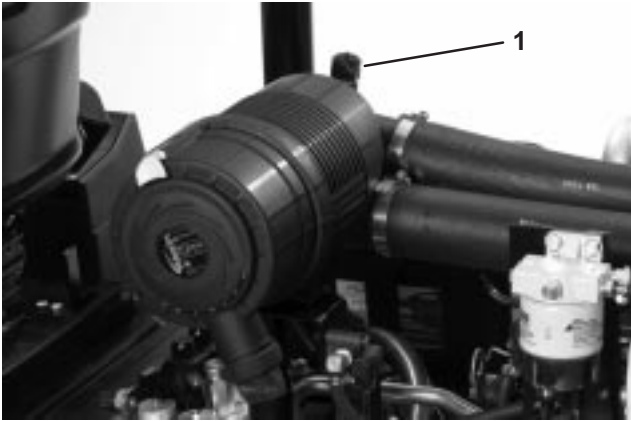

Figure 43
Service the air cleaner filters whenever air cleaner indicator (Fig. 43) shows red or every 400 hours (more frequently in extreme dusty or dirty conditions). Do not over-service the air filter.
8. Reset indicator (Fig. 43) if showing red.